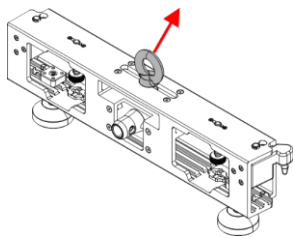

Fig. 39
- 01) Remove the **rigging eye(s) (04)** on top of the device, as shown in Fig. 39.